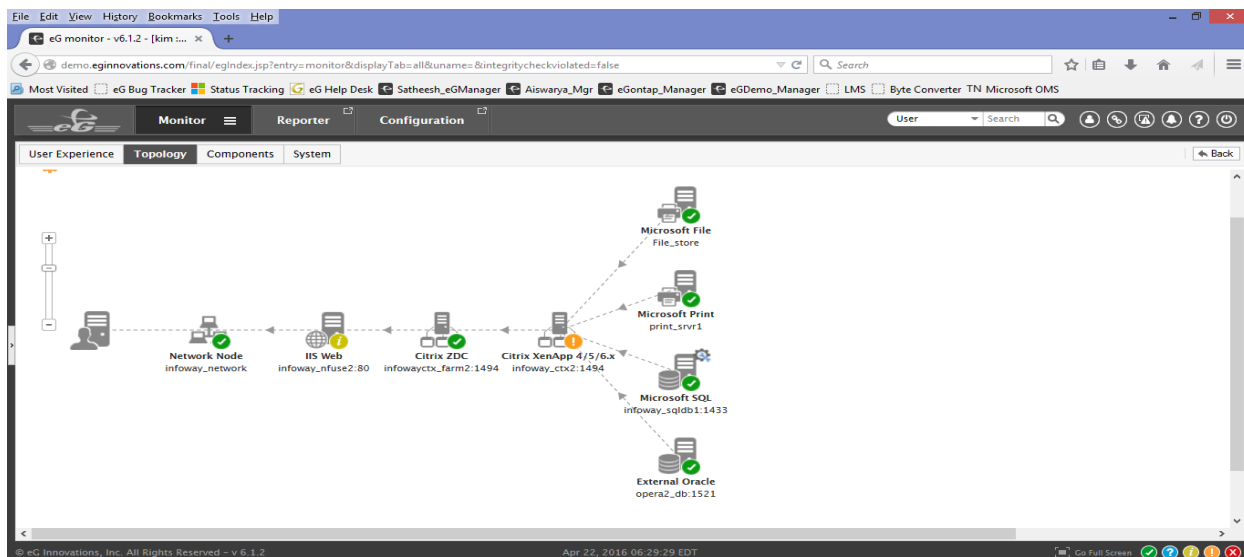
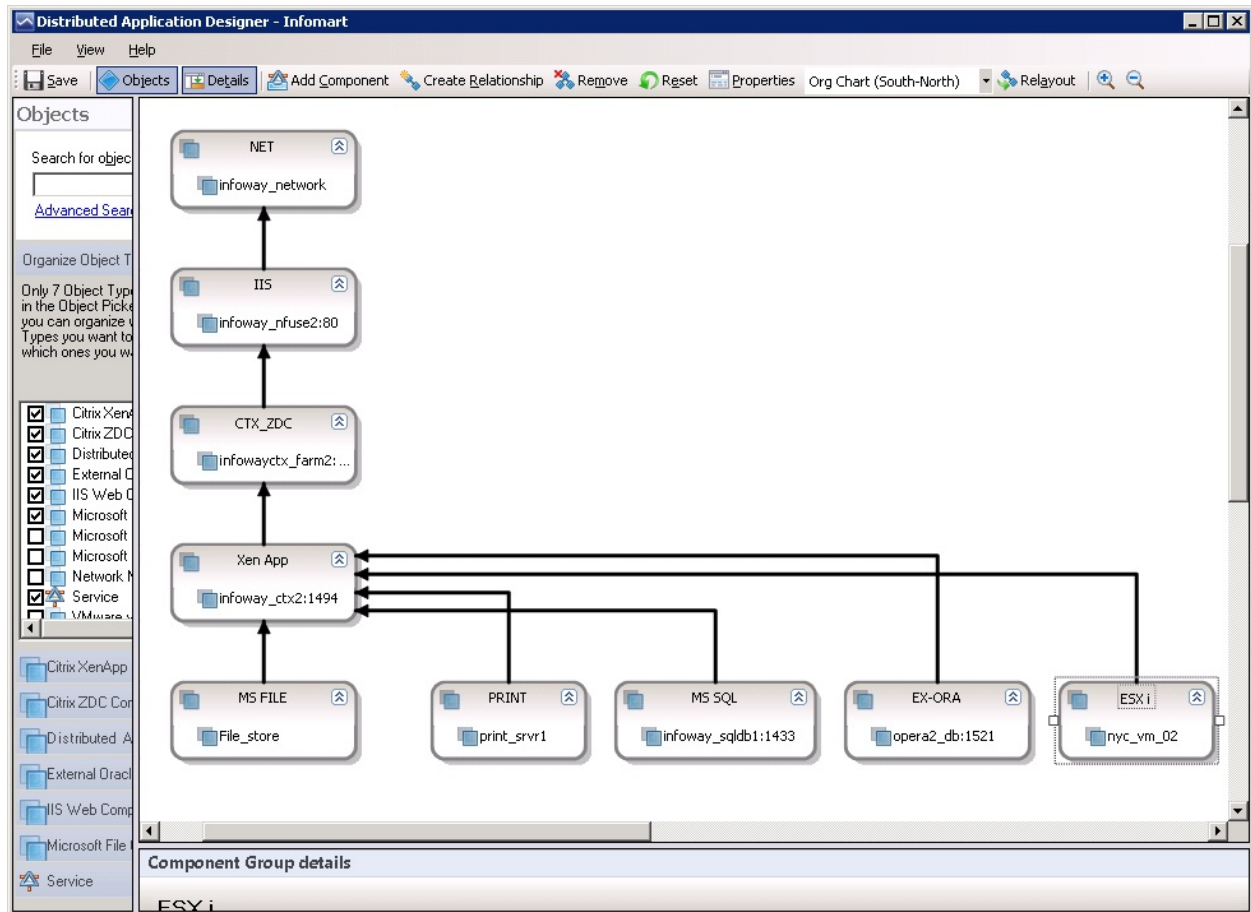

Figure 4.24: The topology of the *Infomart* service as viewed in the eG web interface
Figure 4.37: The fully-configured topology of the *Infomart* distributed application
To achieve this, you will have to login to the SCOM console and recreate the topology of each business service that you want monitored. To help you understand this process better, let us take the example of the *infomart* service. Figure 4.24 below depicts the topology of this service.
12. Likewise, proceed to add the other component groups and components as required by the *Infomart* application, and configure the same relationship between these components as depicted by the service topology preview of Figure 4.24. Figure 4.37 below depicts the final topology of the *Infomart* application.